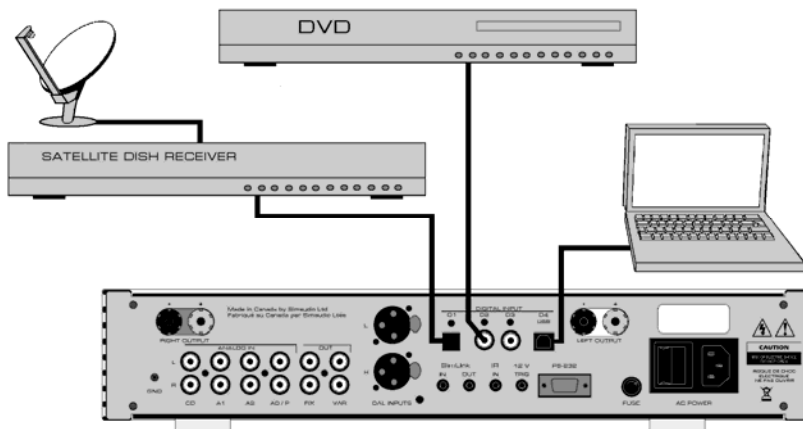

Figure 2: Nëo 340i Optional Digital Inputs – connection examples
There are two (2) different settings available for setting the resistive load; 100Ω and 47kΩ which are represented by jumper sockets R9 for the left channel and jumper socket R24 for the right channel (refer to figure 2 – section labeled "LOADING"). The factory default setting is 47kΩ, therefore both jumpers will be found in each of the two left most sockets.
There are two (2) different settings available for the capacitive load; 0pF and 100pF which are represented by jumper sockets C9 for the left channel and jumper sockets C17 for the right channel (refer to figure 2 – section labeled "LOADING"). The factory default setting is 100pF for a moving magnet cartridge, therefore both jumpers will be found in each of the two right most sockets.
There are two (2) different settings available for gain level. They are 40dB for MM cartridges and 60dB for MC cartridges, which are represented by jumper socket J17 for the left channel and jumper socket J22 for the right channel (refer to figure 2 – section labeled "GAIN"). The factory default setting is for a MM cartridge, therefore both jumpers will be found in each of the two right most sockets labeled MM; ***It is highly recommended that you do not use the jumpers labeled MC for an MM cartridge as this will overload the 340i.*** When using a MC cartridge, you should insert the supplied jumpers into each of the two left-most sockets labeled MC.
The rear panel will look similar to Figure 2 (above). There are four (4) pairs of single-ended analog inputs on RCA connectors labeled CD, A1, A2 and A3/P. The RCA input and output connectors on the rear panel have been color coded: 'white' for the left channel and 'red' for the right channel. If your **Nëo 340i** is equipped with the *optional phono section*, the input labeled 'A3/P' must be used to connect your turntable interconnect leads to this integrated amplifier. If you don't have the optional phono section installed, then this input can be used in the same way as CD, A1 and A2 inputs.